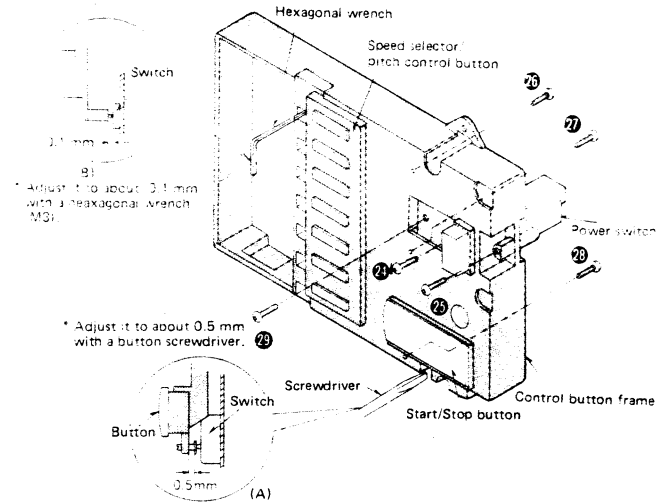

Fig. 5
3. Remove the setscrews ⑳ and ㉑ in Fig. 5 to remove the power switch.
4. Remove the setscrews ㉒ ~ ㉔ in Fig. 5 to remove the speed selector/pitch control button.
5. Remove the setscrews ㉕ in Fig. 5 to remove the start/stop button.
**Note:** The setscrews of the start/stop button and the speed selector/pitch control button are adjusted so that the screw tips slightly touch the buttons (to attain smooth switching). If further adjustment is needed, refer to Fig. 5 (A) and (B).
\* For the speed selector and start/stop button screw adjustment refer to Fig. 5 on page 5.